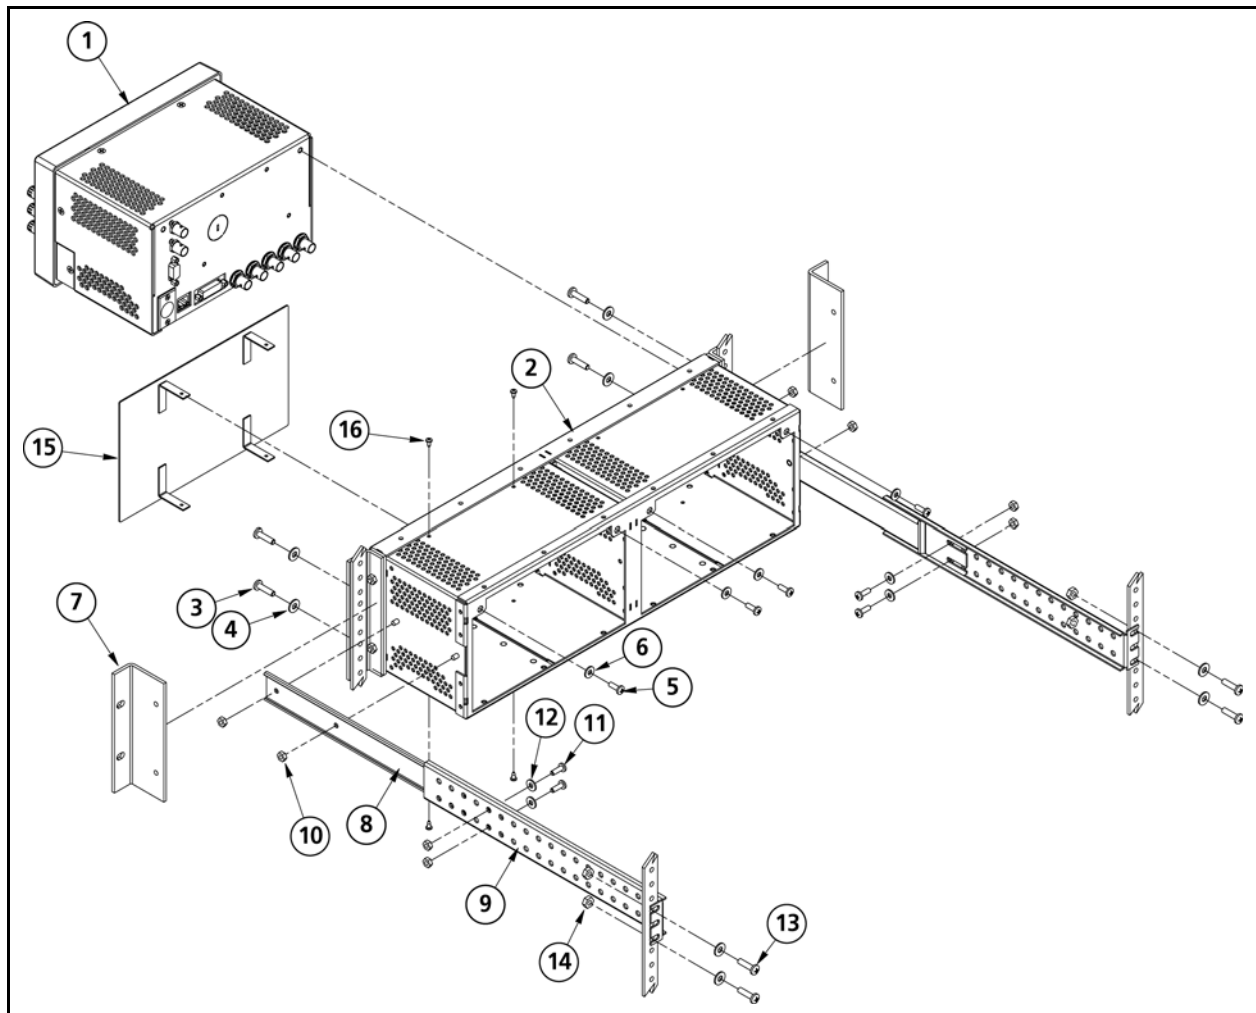
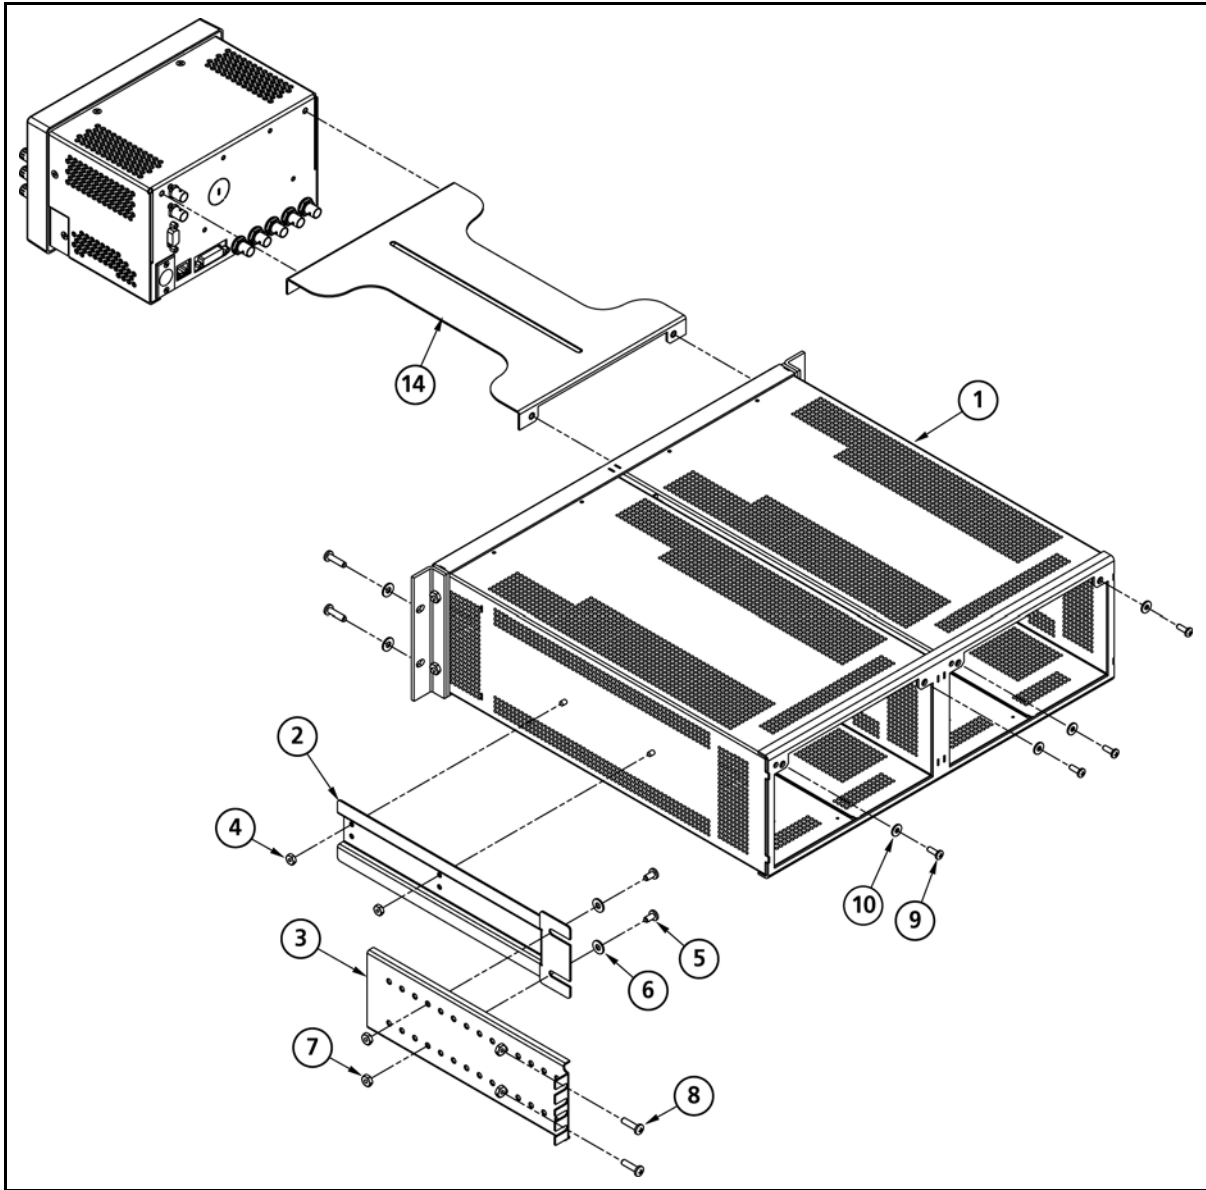

Figure 2-1 Mounting the CMN-91 in a Rack Using the DRC-3
Figure 2-2 Mounting the CMN-91 in a Rack Using the DRC-2A
Rack mounting the CMN-91 is illustrated in Figure 2-1 for the DRC-3 rack mount case, and in Figure 2-2 for the DRC-2A double rack mount case (for installing one or two CMN-91 units). Table 2-1 lists the parts required to rack mount the CMN-91 into the DRC-3 rack mount case and Table 2-2 lists the parts required to rack mount the CMN-91 into the DRC-2A double rack mount case.
- 1** Install the extension bracket mounts (ITEM 8) to both sides of the DRC-3 chassis (ITEM 2) using 4 nuts (ITEM 10), as shown in **Figure 2-1**.
- 2** Install the assembled CMN-91 unit (ITEM 1) in the DRC-3 chassis (ITEM 2) using screws (ITEM 3) and washers (ITEM 4) through the chassis front mounting ears, as shown in **Figure 2-1**.
- 1 If the optional bracket kit is being used, install the bracket (ITEM 14) to the rear of the CMN-91 unit, as shown in Figure 2-2.
- 3 Install the assembled unit in a rack using ¾-in. Phillips head screws (ITEM 8) and lock washers (ITEM 11), as shown in Figure 2-2.